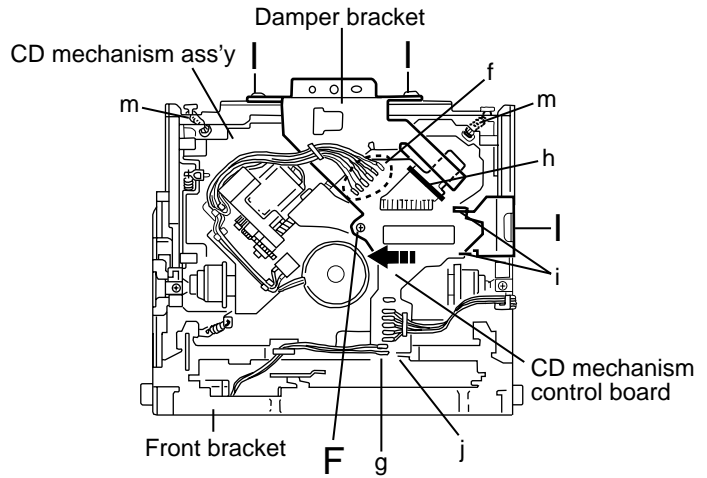

Fig.1
■ **Removing the CD mechanism control board(See Fig.1 and 2)**
**(See Fig.1, 6 to 9)**